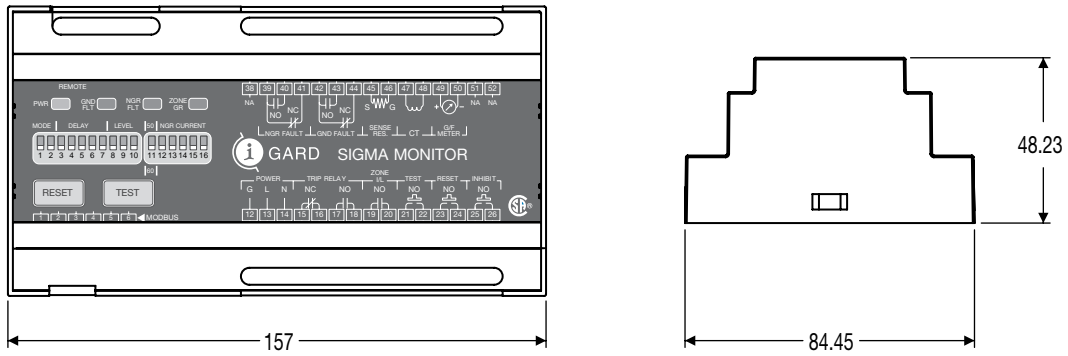

Figure 2 Sigma Monitor Relay Detail
- 9) Reconnect the conductor between terminal G of the NGRS-XX Sensing Resistor and the appropriate terminal on the SIGMA MONITOR RELAY. Refer to Figure 2.
- 12) Reconnect the conductor from the R terminal of the NGRS-XX Sensing Resistor to the appropriate terminal of the SIGMA MONITOR RELAY. Refer to Figure 2.